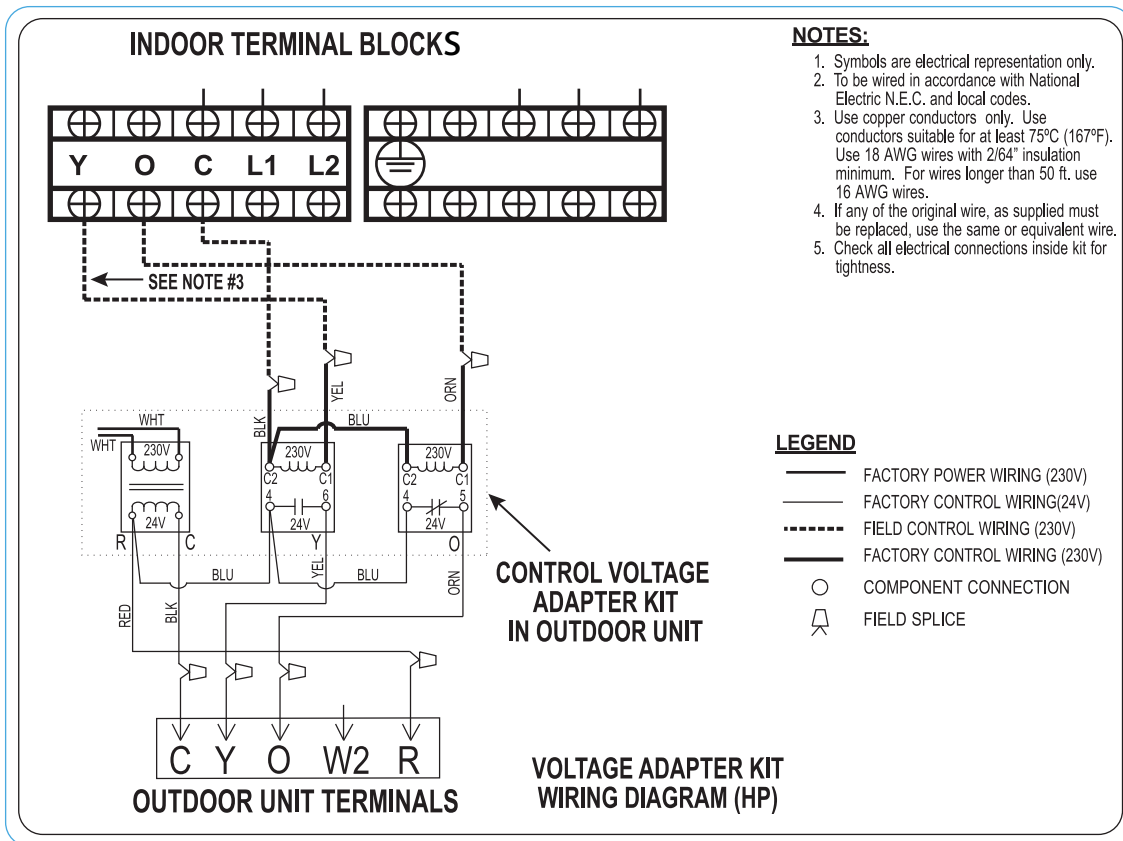

Fig. 7- Connection Diagram for KHAVC0101AAA Control Voltage Adapter Kit
3. After running the 230V field wire to the outdoor unit, connect the high voltage wires from the kit (INDOOR C, O Y) as shown in Fig. 7.